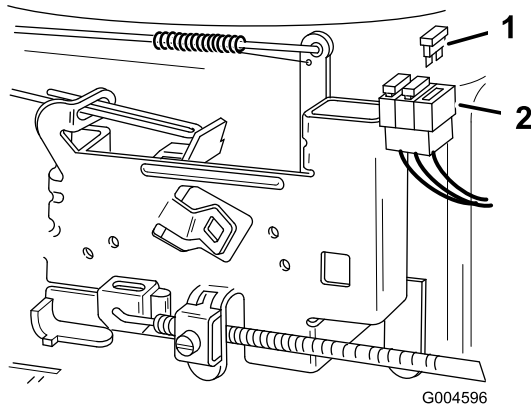

Figure 31
1. Pull up on the fuse (Figure 31) to remove it from the socket.